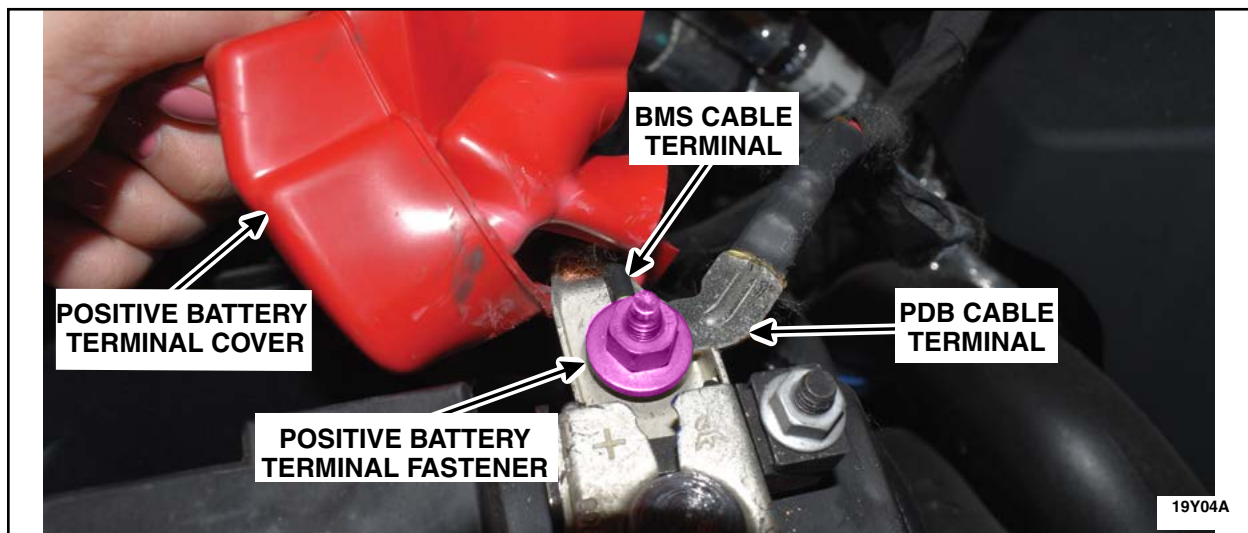

FIGURE 1
2. Position the positive battery terminal cover aside and remove the positive battery terminal fastener. See Figure 1.